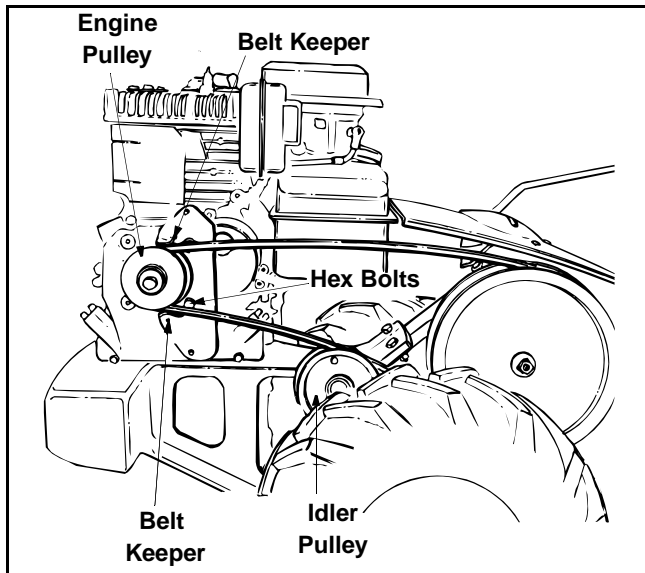

Figure 12
- Remove the belt keeper assembly located behind the engine pulley by removing two hex bolts and lock washers. See Figure 12.